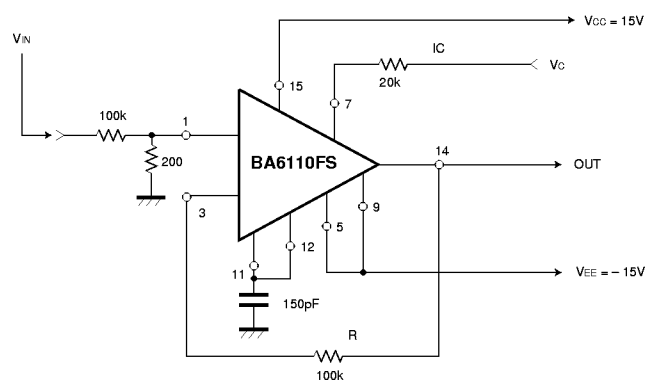

Fig.4 Voltage control low pass filter
(2) Fig. 4 shows a low pass filter as an example of an application of the BA6110FS.